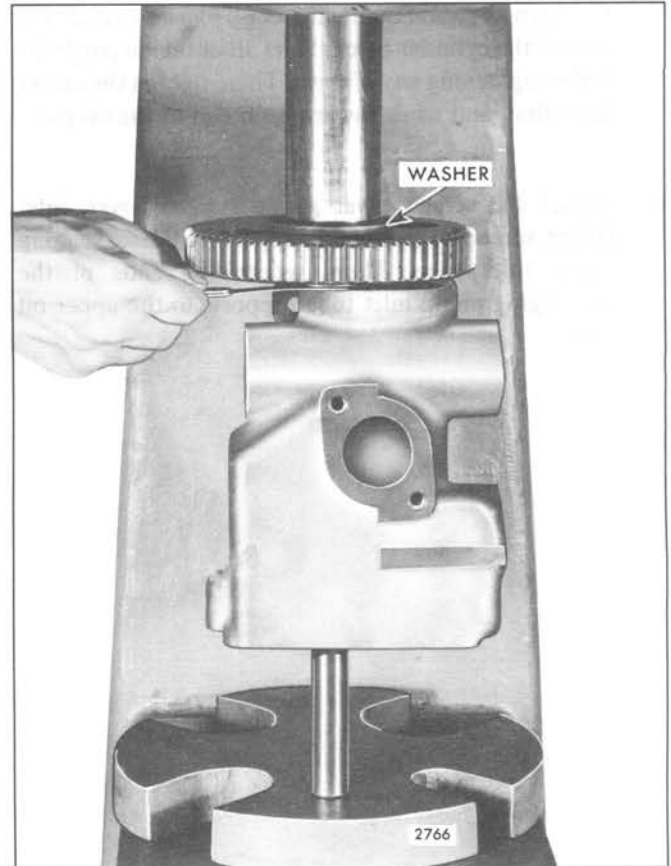

Fig. 16 - Installing Oil Pump Drive-Driven Gear on Shaft
6. Press the driven gear on the drive shaft until the clearance between the gear hub and the pump body is .010" (Fig. 16).